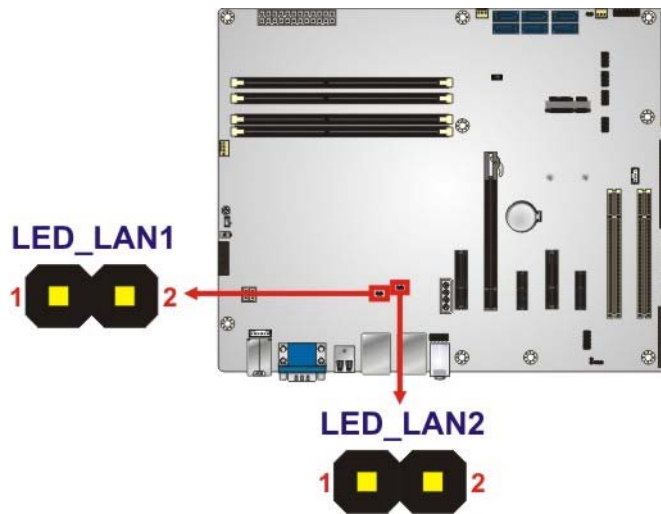

Figure 3-18: LAN LED Connector Locations
- CN Location:** See **Figure 3-18**